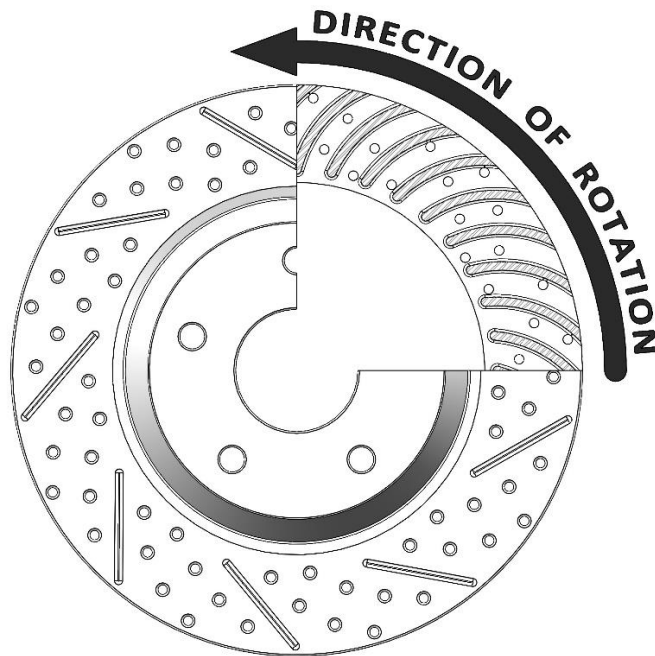

Figure 5 – Proper Rotor Orientation (LH Shown)
8. Place the correct LH or RH rotor onto the hub assembly. Use three lug nuts when installing to hold the rotor tight against the hub which will allow for accurate shimming of the calipers which will be done in a later step. When installing rotors, be sure to follow the direction of rotation indicated on the rotor hat area with either an arrow or with an “L” for driver side or an “R” for passenger side. Figure 5 below shows the direction for reference.